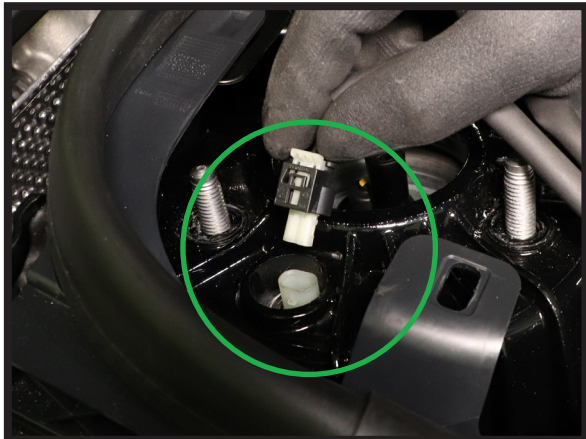

FIGURE 6
7. DISCONNECT THE TWO (2) TOP MOUNT ELECTRICAL CONNECTIONS. (FIGURES 6, 7)